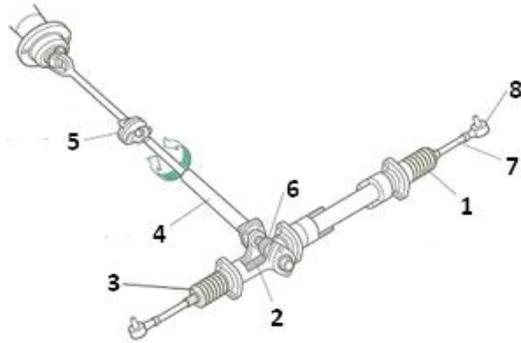

Figure 1
Figure 1 below represents steering system
- 1.3 Compare the type of steering represented by figure 1 to that of an axle beam steering system (3marks)